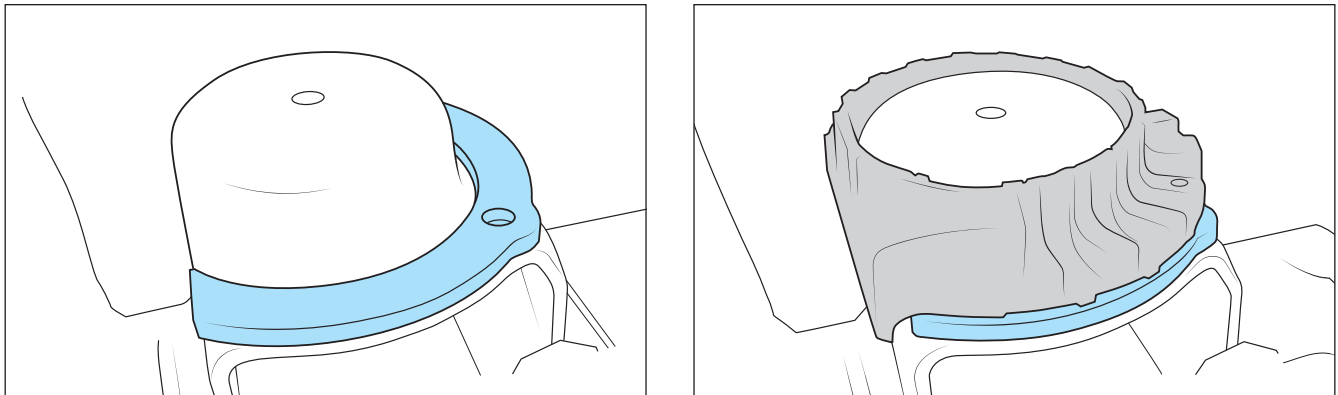

Figure 18
- A. Remove right side lower spring isolator by carefully prying it upward away from axle. Install front spring shim to bottom of isolator, passing molded stud through hole in shim. Reinstall assembly onto axle spring seat (Fig 18). JL has more weight on right side of vehicle than left, so this helps it sit level. Shim sits underneath isolator on axle.